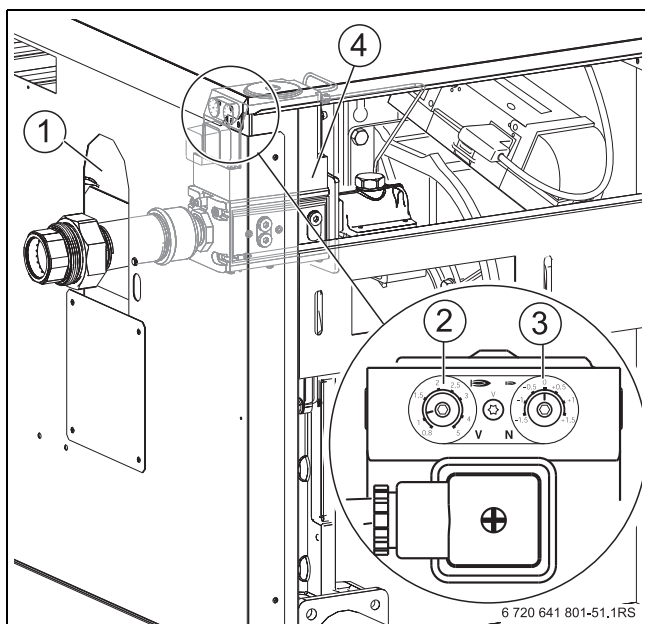

Fig. 29 Conversion to a different gas type (boiler size 200 to 280 kW)
- ▶ Increase the value of adjusting screw V (→ Fig. 29, [2]) by 0.5, e.g. from a setting of 1.1 to 1.6.
- ▶ Decrease the value of adjusting screw V (→ Fig. 29 [2]) by 0.5, e.g. from a setting of 1.6 to 1.1.